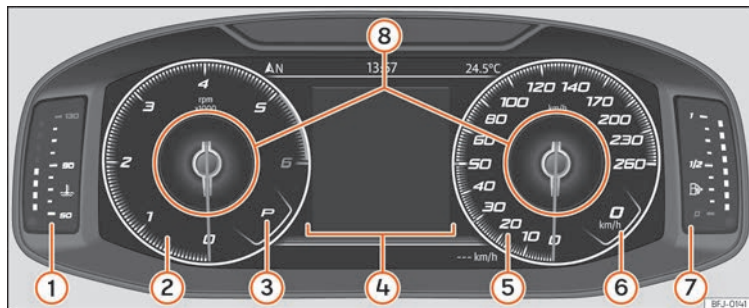

Fig. 67 SEAT Digital Cockpit on the instrument panel (classic view).
In the **Classic** and **Navigation** views it is possible to customise the information displayed under **Information profiles** » **Fig. 67** ⑧.
»» Fig. 67.